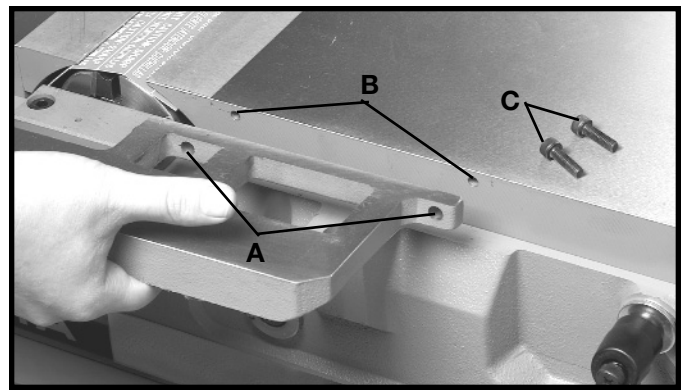

Fig. 15
1. Remove the two M6x1x20mm socket head screws (C) Fig. 15 from hole location (B) in the front of the Jointer.
2. Align the two holes (A) Fig. 15, in the rabbeting ledge, with the two holes (B) in the front of the Jointer. Insert the screw through the hole (A) in the rabbeting ledge and thread the screw into the tapped hole (B) in the front of the Jointer. Make sure the rabbeting ledge is level with the infeed table. Tighten screw (C) securely. Repeat this process for the remaining hole in the rabbeting ledge and the front of the Jointer.